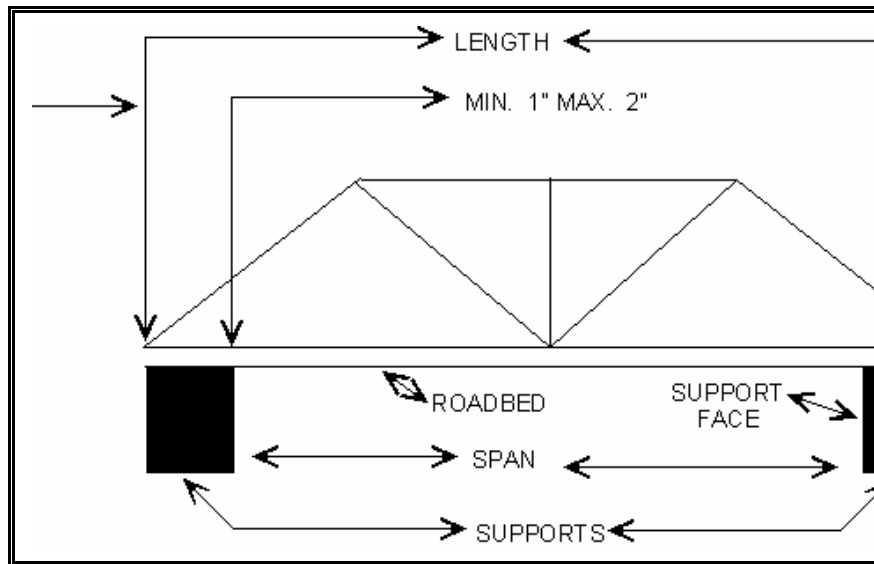

Figure 1. Bridge with superstructure above the roadbed only
2. Applies to the Figure 1 bridge with superstructure above the roadbed only, and the Figure 2 bridge with structure below and/or above the roadbed.